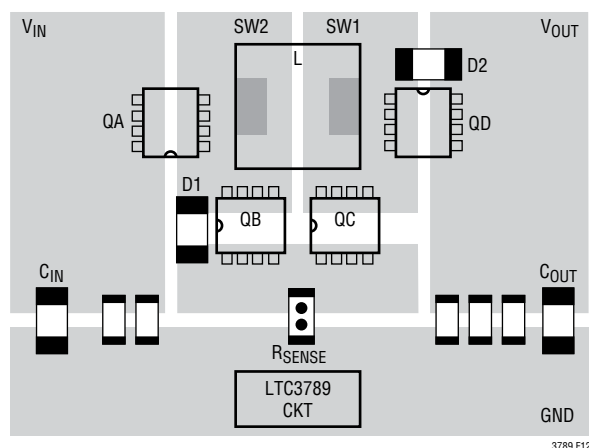

Figure 12. Switches Layout
- Place C_{IN} , switch A, switch B and D1 in one compact area. Place C_{OUT} , switch C, switch D and D2 in one compact area. One layout example is shown in Figure 12.